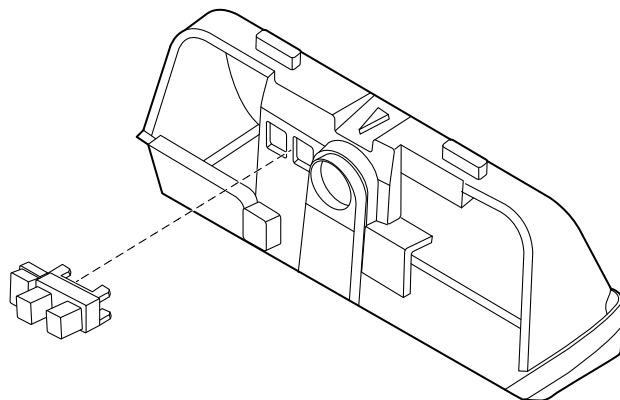

Figure 37
7. Unplug (Item 3) optical sensor, then pull plug side backward to release from front of top plate. See Figure 37.
1. Insert the optical sensor by pushing the hooked side into top plate first, then plug side of sensor until both snaps. See Figure 37.